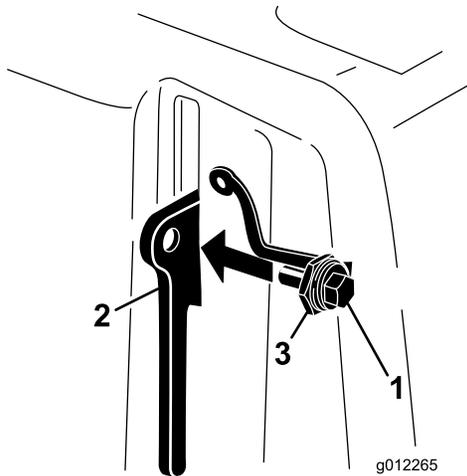

Figure 11
- Thread the bolt into the belt cover latch lever (Figure 11).